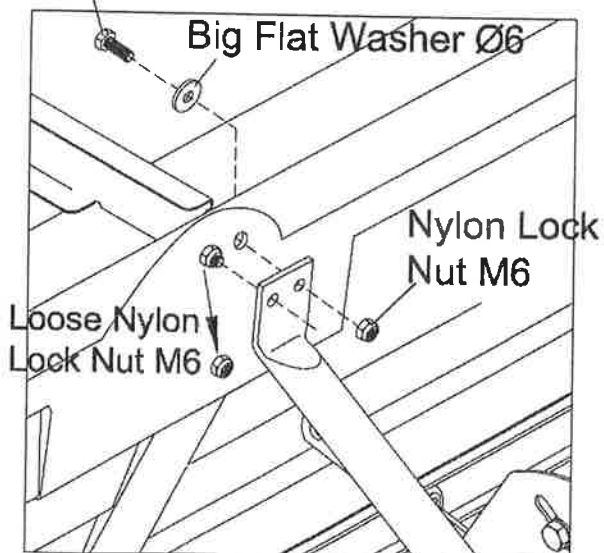

Figure 3
2. Loose one Nylon Lock Nut M6 from the hopper, assemble the Flow Control Handle to the hopper using the removed Nylon Lock Nut M6 for fixing. For the other hole on Control Handle, secure it by using one set of Hex Bolt M6x16, Big Flat Washer Ø6 and Nylon Lock Nut M6. See Figure 3 & 4. **DO NOT TIGHTEN THE BOLTS NUTS AT THIS STAGE.**